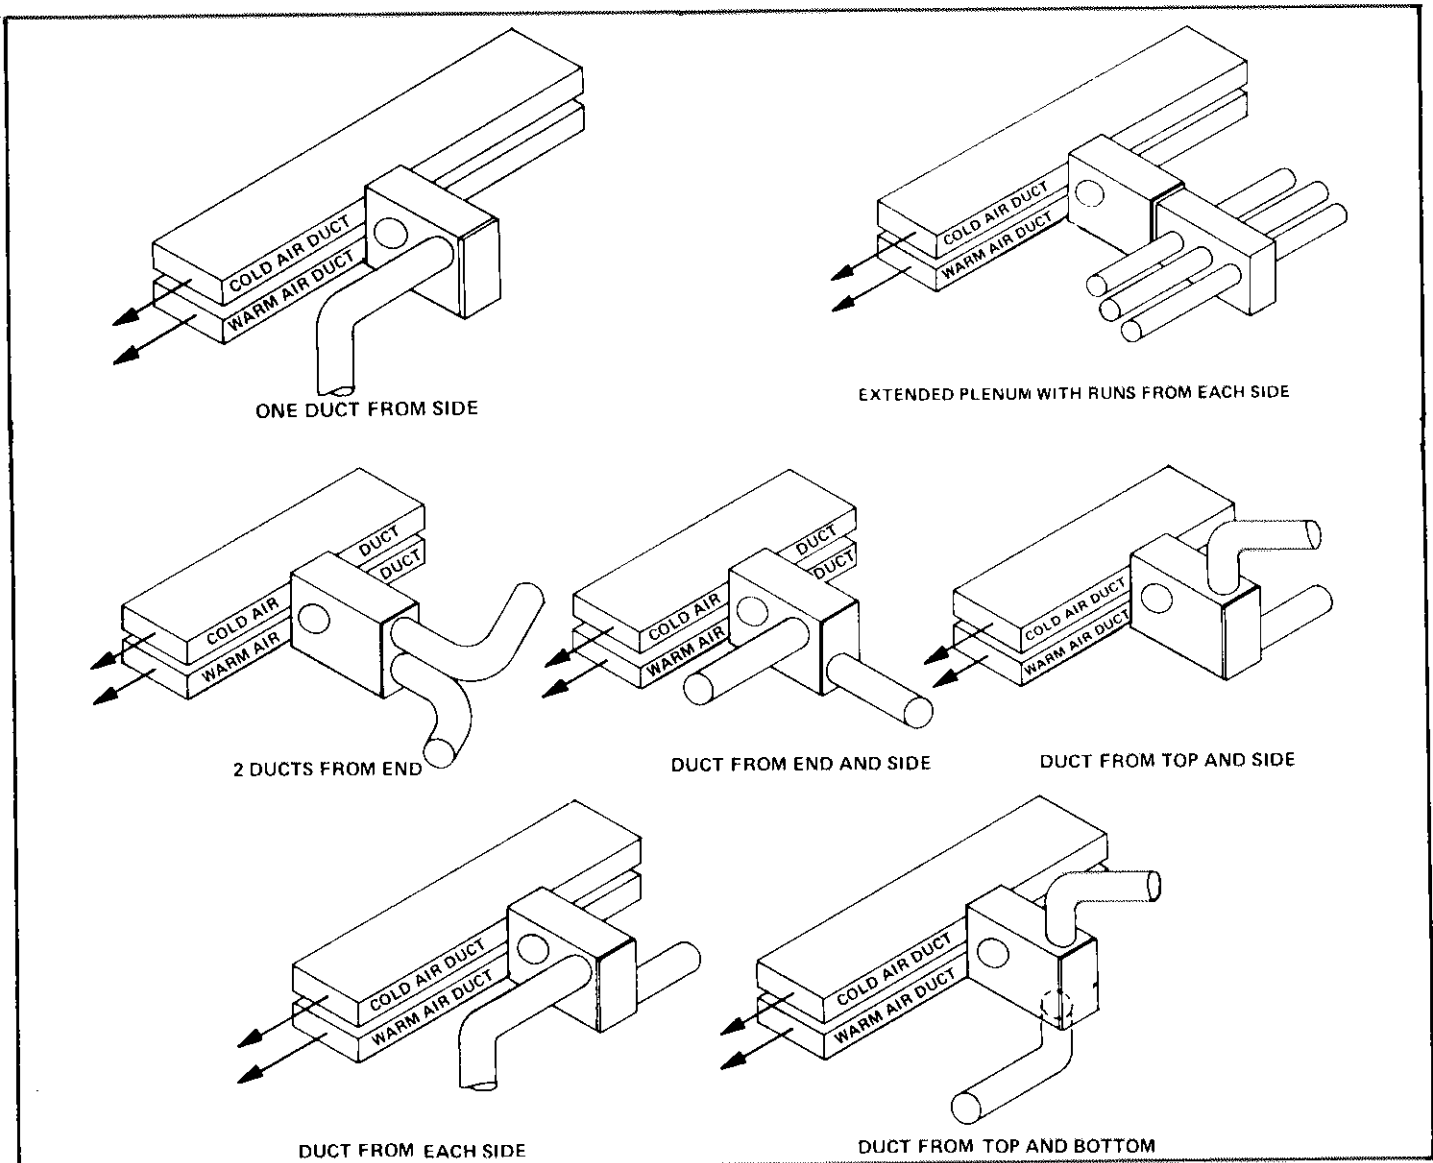

FIGURE 12
- a - When running one duct from the zone box, remove splitter baffle. Refer to Figure 12.
- b - When two ducts are run from the damper box, always take off opposite sides of the splitter baffle. Refer to Figure 12.
- c - When 3 or more ducts are required, use an extended plenum and run individual ducts from plenum. Refer to Figure 12.